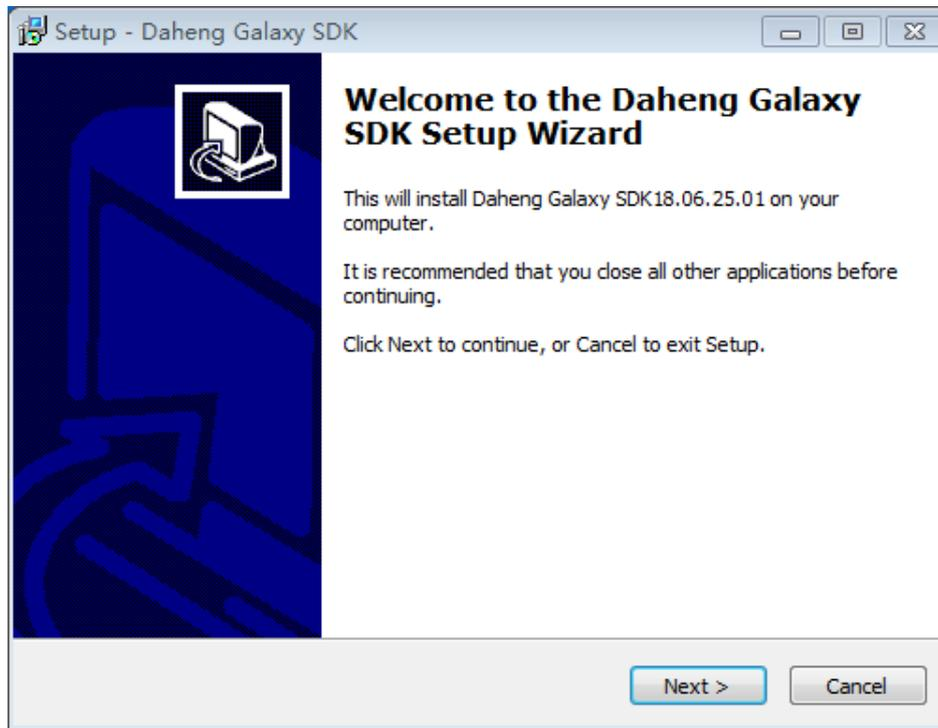

Figure 2.2-9
(12)Click complete, finish the installation of the runtime, because the system supports CCD processing, need to install the camera driver, the next program will automatically start the camera driver installation, pop-up camera driver installation wizard. As shown in figures 2.2-9: